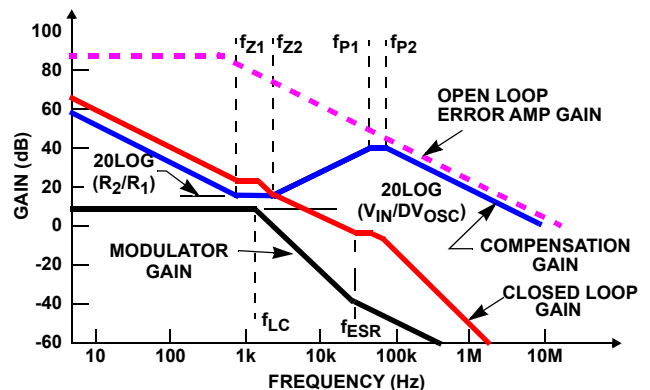

FIGURE 59. ASYMPTOTIC BODE PLOT OF CONVERTER GAIN
Figure 59 shows an asymptotic plot of the DC/DC converter's gain vs frequency. The actual modulator gain has a high gain peak due to the high Q factor of the output filter and is not shown in Figure 59. Using the guidelines provided should give a compensation gain similar to the curve plotted. The open-loop error amplifier gain bounds the compensation gain. Check the compensation gain at f_{P2} with the capabilities of the error amplifier. The closed-loop gain is constructed on the graph of Figure 59 by adding the modulator gain (in dB) to the compensation gain (in dB). This is equivalent to multiplying the modulator transfer function to the compensation transfer function and plotting the gain. The compensation gain uses external impedance networks Z_{FB} and Z_{IN} to provide a stable, high bandwidth (BW) overall loop. A stable control loop has a gain crossing with -20dB/decade slope and a phase margin greater than $+45^\circ$. Include worst case component variations when determining phase margin. A more detailed explanation of voltage mode control of a buck regulator can be found in TB417, entitled "Designing Stable Compensation Networks for Single Phase Voltage Mode Buck Regulators".